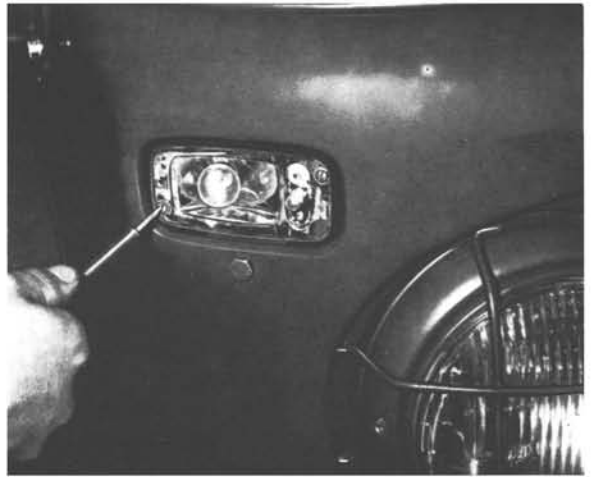

Fig. 82-1/8
4. Loosen two cheesehead screws and remove reflector. Fig. 82-1/8.